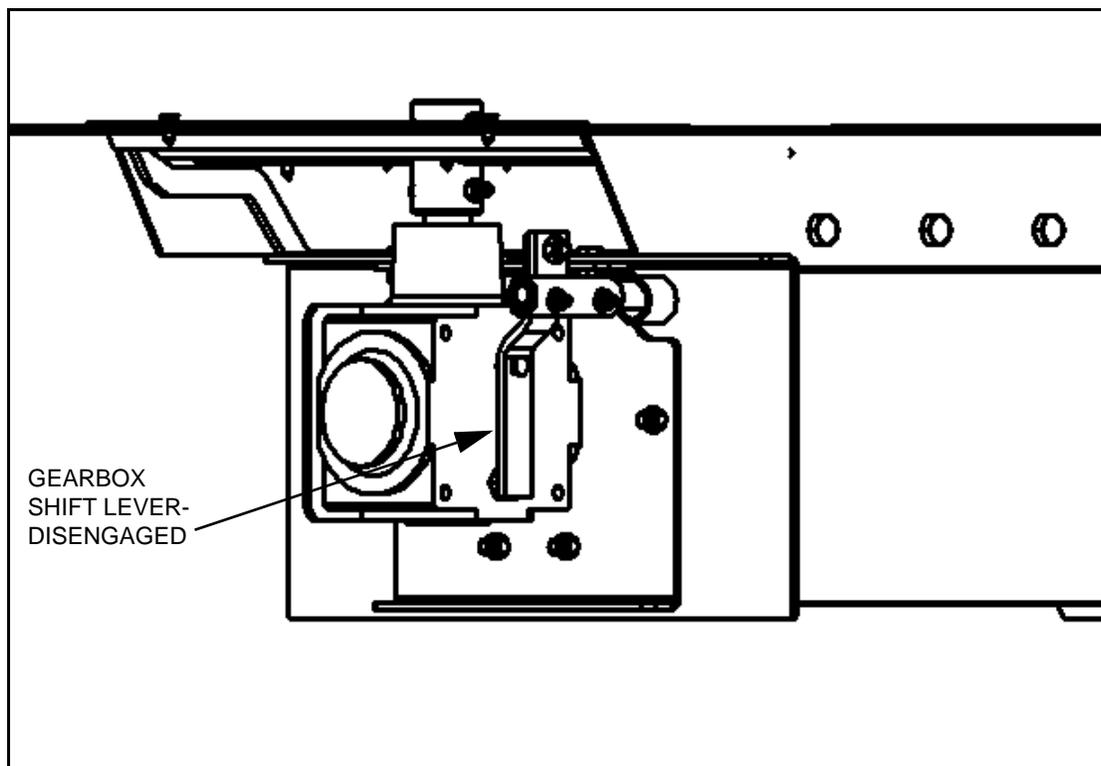

Figure 3.8
3. Adjust gearbox shift lever (on gearbox) until it is aligned straight up and down - this is the "disengaged" position where the bottom gearbox shaft is disengaged from the top gearbox shaft; see Figure 3.8.